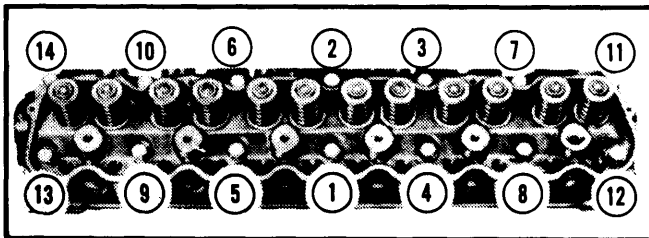

Fig. 1 Cylinder Head Tightening Sequence
**Installation** – Clean all gasket surfaces and apply suitable sealer to both sides of new steel gasket. Position gasket on block and install cylinder head. Tighten cylinder head bolts in three steps, following sequence shown in *Fig. 1*. Install other parts previously removed.